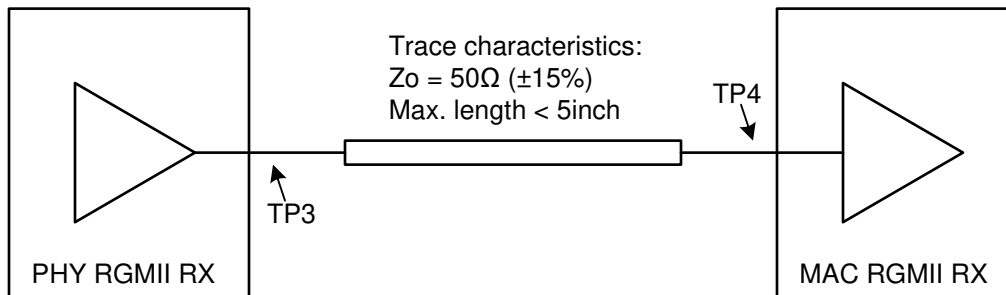

图 7-3. RGMII RX Requirements
- No damping resistors should be added at TP3/TP4, in 图 7-3, as that will impact signal integrity of RX signals.
- 图 7-3 shows a RGMII interface requirements for RX* signals. MAC RGMII driver output impedance should be 50Ohm+/-20%.
- Signal Integrity at TP3 and TP4, in 图 7-3, should be verified with IBIS model simulation and ensured conformance to following requirements: